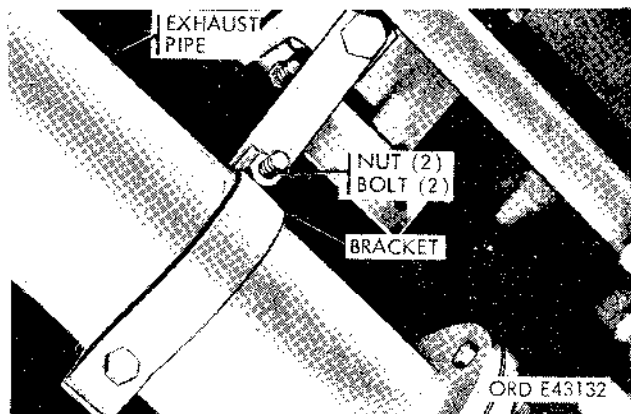

Figure 2-118. Removing exhaust pipe bracket.
(2) Remove the two nuts and bolts securing the bracket to the exhaust pipe, and remove the bracket (fig. 2-118).